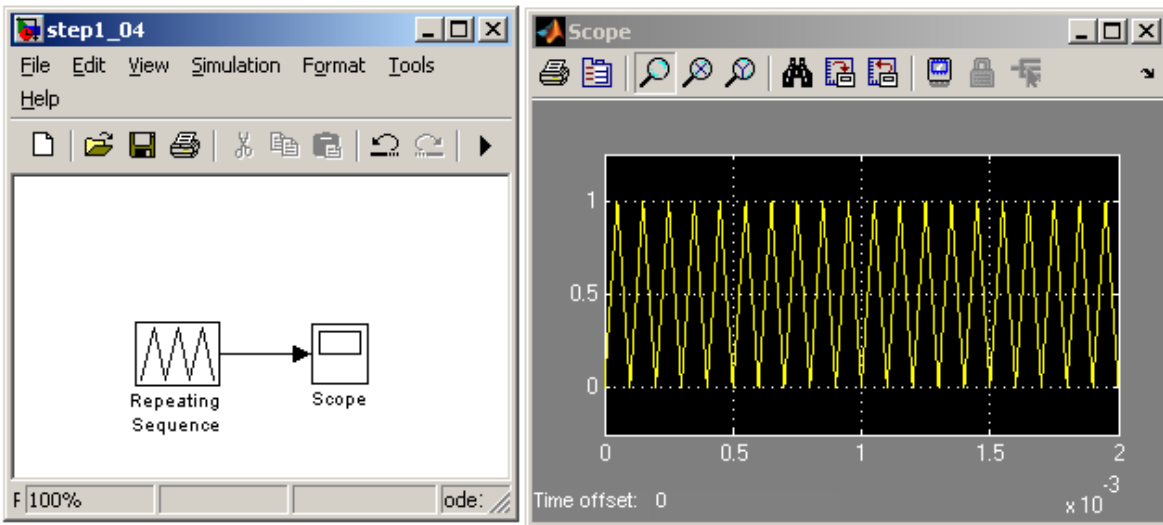

Figure 2.2: Triangular Waveform with 10 kHz frequency
after the simulation finishes. The result should look similar to the one shown in Fig. 2.2.
- Copy and paste the model of triangular waveform generator from section 2.3.1 (Fig 2.2).